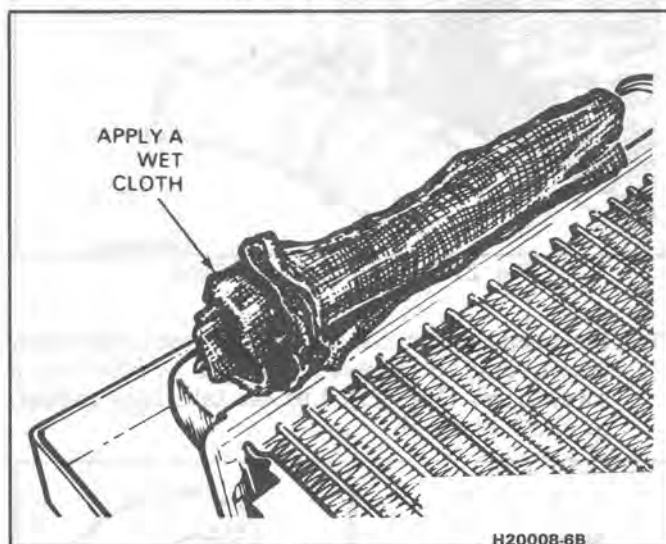
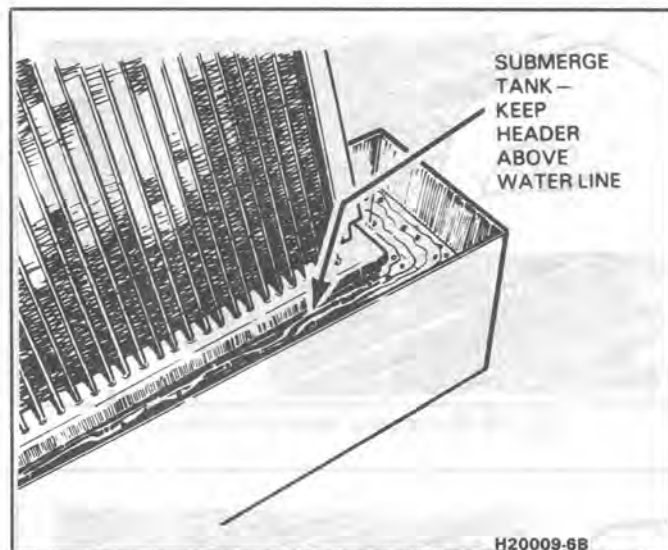

Fig. 16 Using Wet Cloth on Side Tank
Fig. 17 Submerging Side Tank
If the header or a tube near the header requires a repair, the side tank does not have to be removed. A damp cloth can be placed against the side tank where the repair has to be made (Fig. 16). The side tank can
also be submerged in a tank of water up to the header (Fig. 17).
2. Apply a wet cloth if you are working near the plastic tanks or the joints between the core tubes and header (Fig. 16); or submerge the tank in water (Fig. 17).